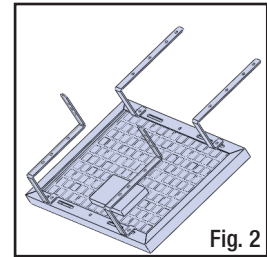

Fig. 2
2. Align brackets to unit with roof pitch and use (6mm) Nuts and Bolts with 4x washers to secure (A) & (B) Brackets in position as per Fig. 2.